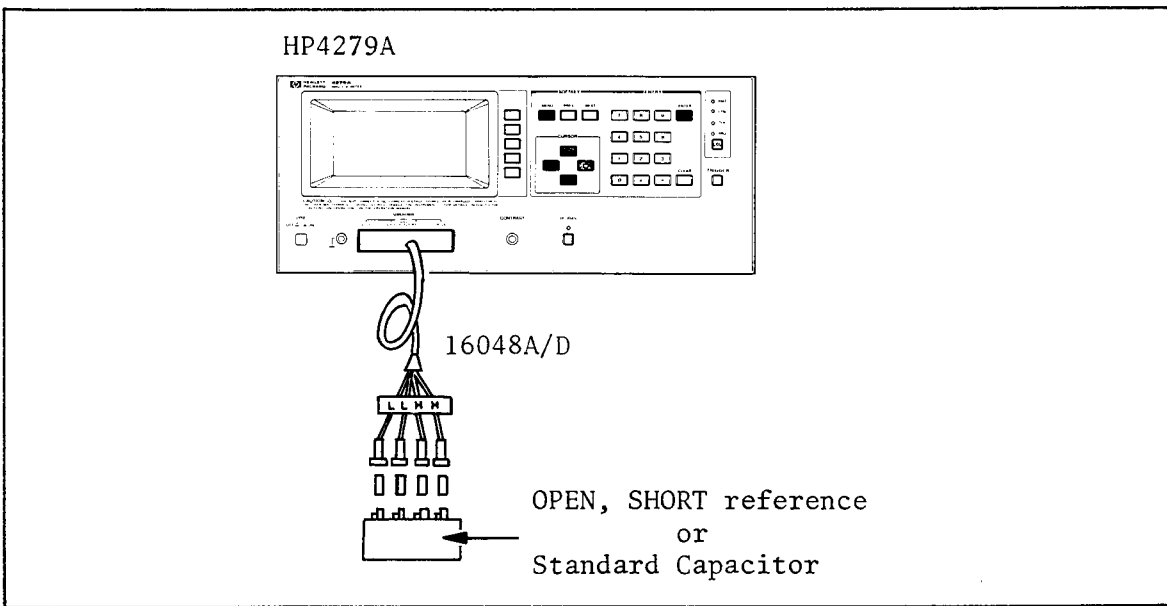

Figure 9-5. Capacitance Accuracy Test Setup 2
26. Disconnect the 100pF standard capacitor, and connect the **OPEN** reference using the 16048A test leads (1m) as shown in Figure 9-5.